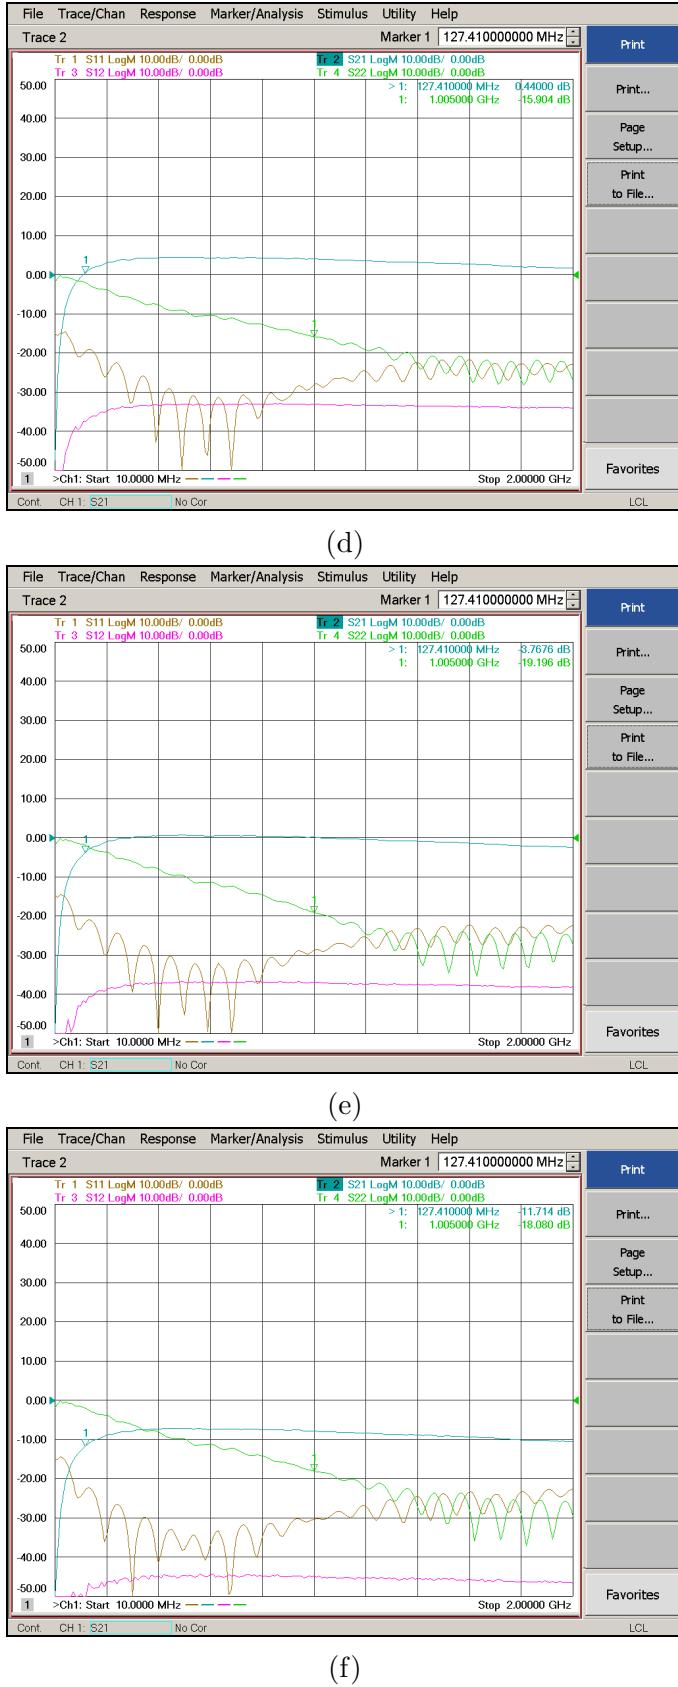

Figure 11: Desired VNA Displays at all the TestRun Attentions
3. Watch how the graph on the VNA responds as the attenuation increases. Figure 11 shows how the VNA display should look as TestRun sets the attenuation to 0dB, 1dB, 2dB, 4dB, 8dB, and 16dB. Graphs a-f from Figure 11 match the attenuation settings in ascending order.
On the VNA display, there are four colored traces. Orange, S11, shows the return loss of the attempter's input. Green, S22, shows the return loss of the attempter's output. Magenta, S12, shows the transmission from output through the attempter and to the input. Cyan, S21, shows the transmission from input through the attempter and to the output. For a functional attempter, changing the attenuation changes S21. More specifically, increasing attenuation decreases the power that S21 sits at. This relationship is shown in Figure 11. S21 show a gain of 8dB when the attenuation is set to 0dB. The attenuation range of an attempter is about 31.5 dB in 0.5 dB steps.